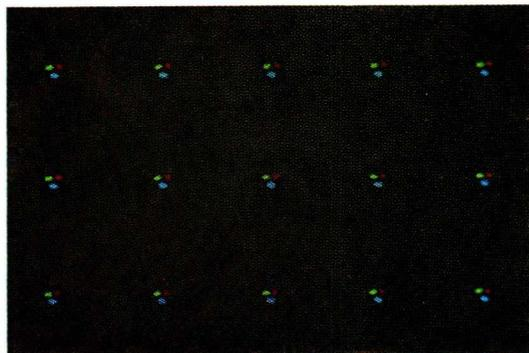

Fig. VII-9. Detail of incorrectly converged picture
1. ● Check and, if necessary, re-adjust the static convergence in the centre of the screen at low ambient brightness. This should be done according to the instructions of the manufacturer of the receiver. Fig. VII-9 shows a detail of an incorrectly converged picture.